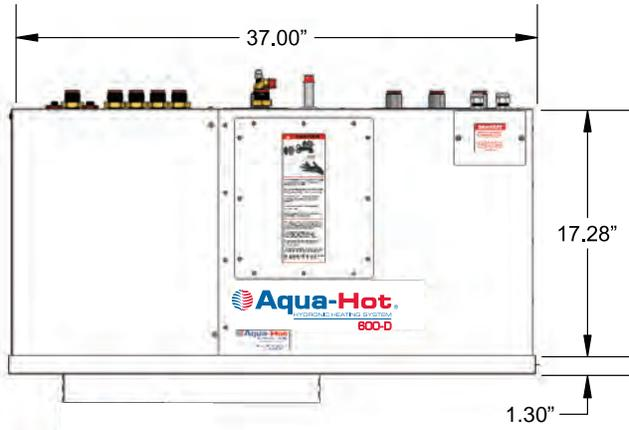

Figure 8
- Overall Aqua-Hot dimensions - Figure 8
6. Install the combustion-air sleeve onto the diesel-burner’s air intake. Reference Figure 8.